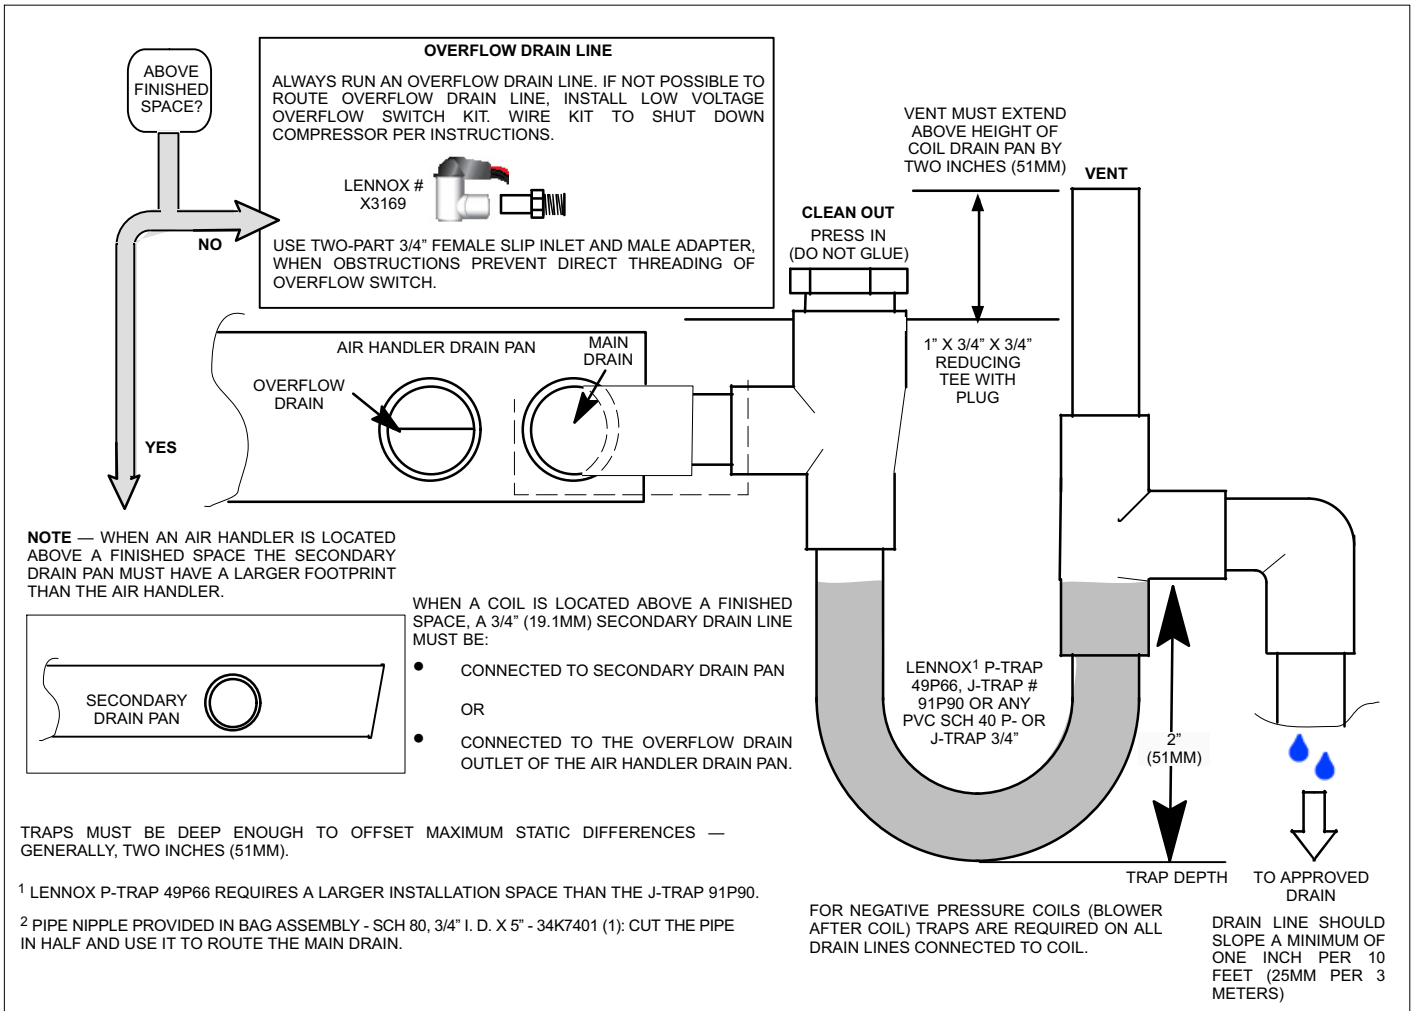

Figure 9. Typical Main and Overflow Drain
7. Install a 2" trap in the primary drain lines as close to the unit as practical (see figure 9). Make sure the top of the trap is below the connection to the drain pan to allow complete drainage of the pan.
NOTE — Horizontal runs must have an anti-siphon air vent (standpipe) installed ahead of the horizontal run (See figure 9). An extremely long horizontal run may require an oversized drain line to eliminate air traps.